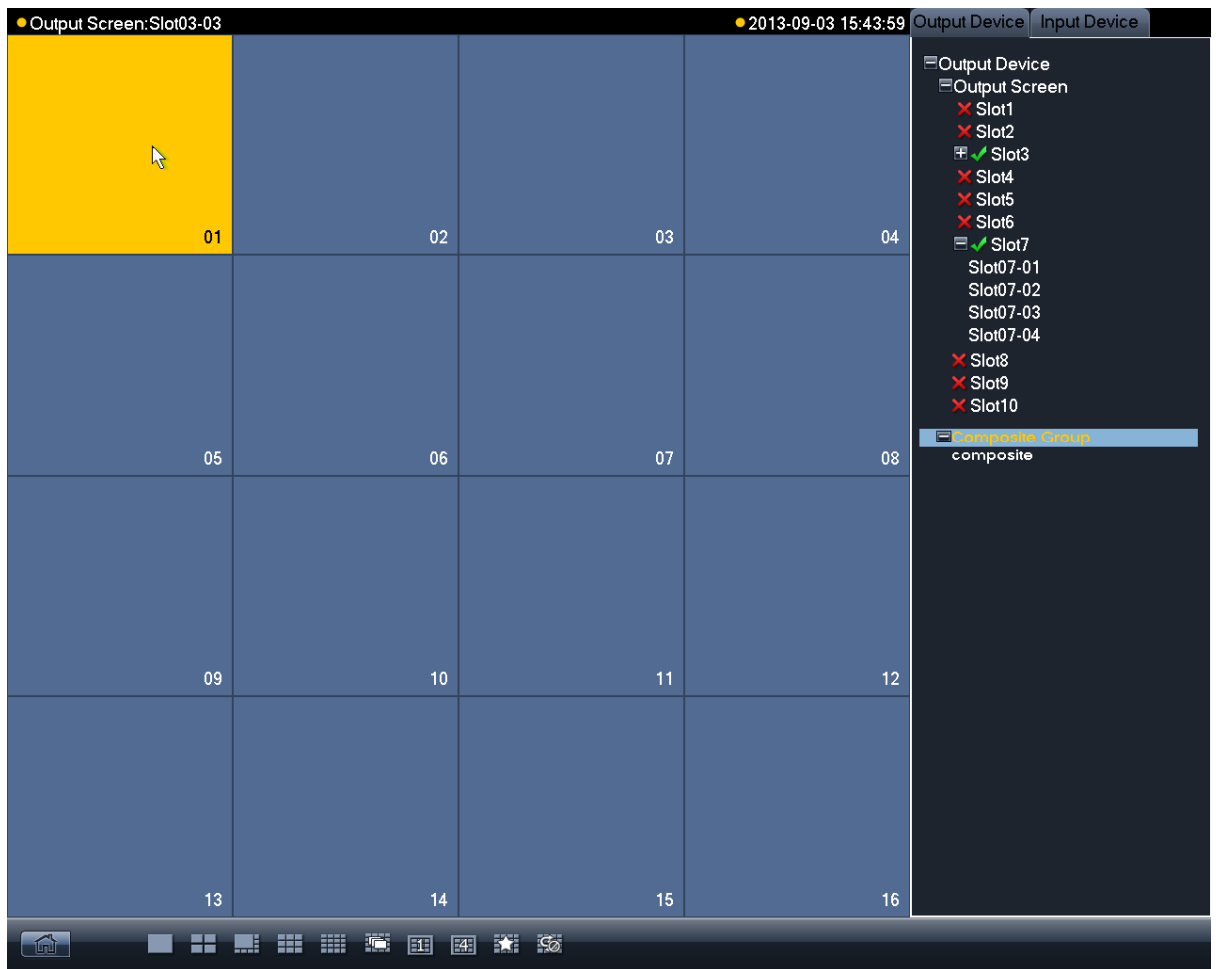

Figure 3-7
Step 1 In output device area, double click the output channel name and select corresponding split window in the display window. The corresponding window turns yellow, as shown in Figure 3-7.